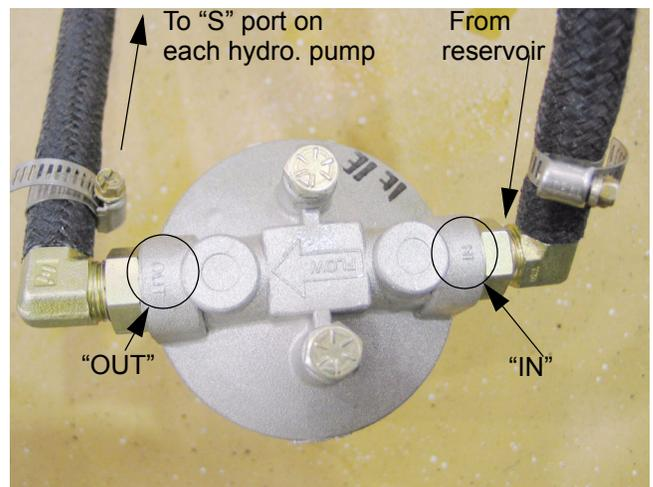

Figure 23.5
23.5. The filter and housing are direction-specific. If the hoses are disconnected for service, confirm correct reattachment before operating the mower. See Figure 23.5.